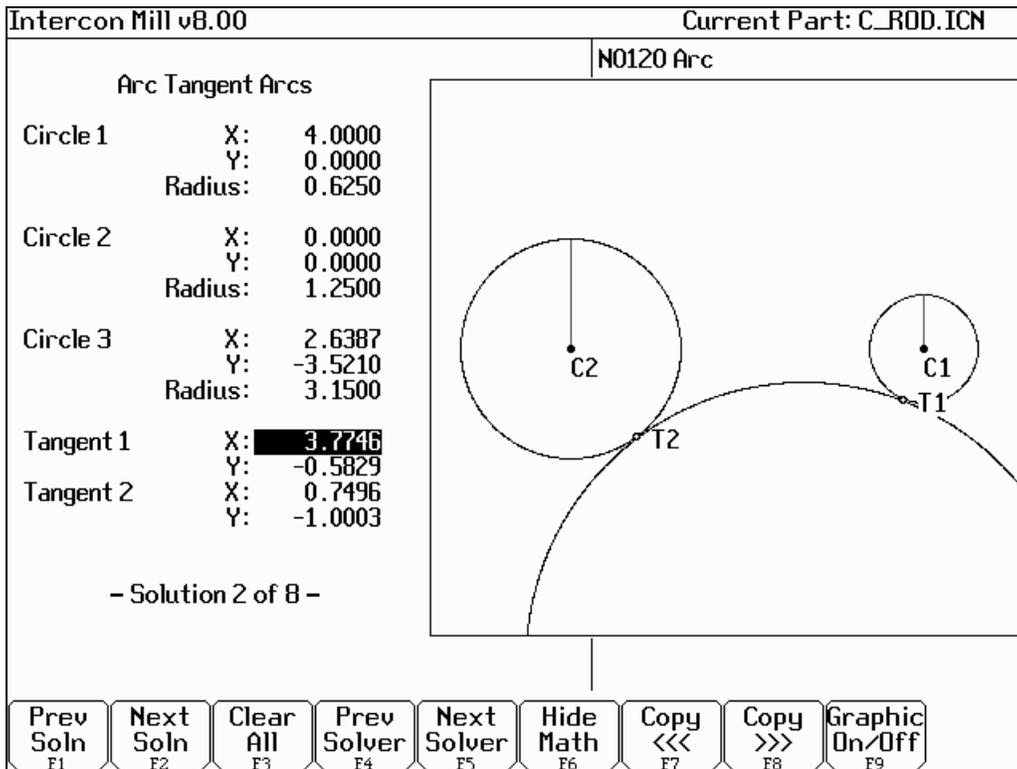

FIG. 4 - Screen showing Math Help Arc Tangent Arc solutions
- F2** Next Soln. Find scenario that corresponds to the actual arcs being milled. Observe Figure 4. Point T1 is the one needed.